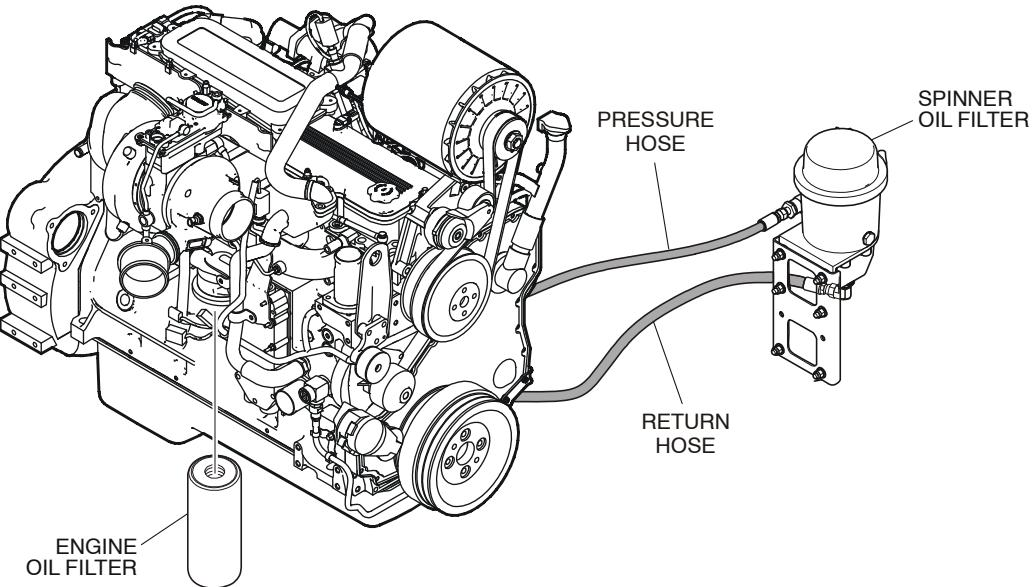

Fig. PM-16: Engine Oil Filter
2. Remove the oil drain plug from the bottom of the oil pan. See "Fig. PM-16: Engine Oil Filter" on page 38.